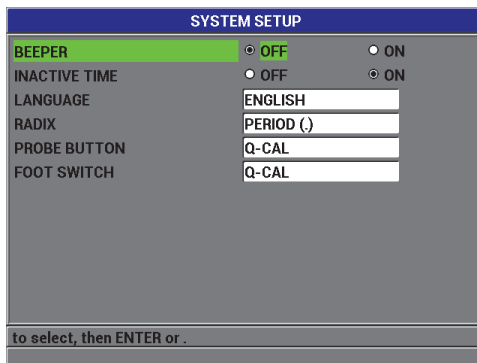

Figure 6-2 The SYSTEM SETUP screen
1. In the measurement screen, press **[SET UP]**, and then select **SYSTEM** to display the **SYSTEM SETUP** screen (see Figure 6-2 on page 106).